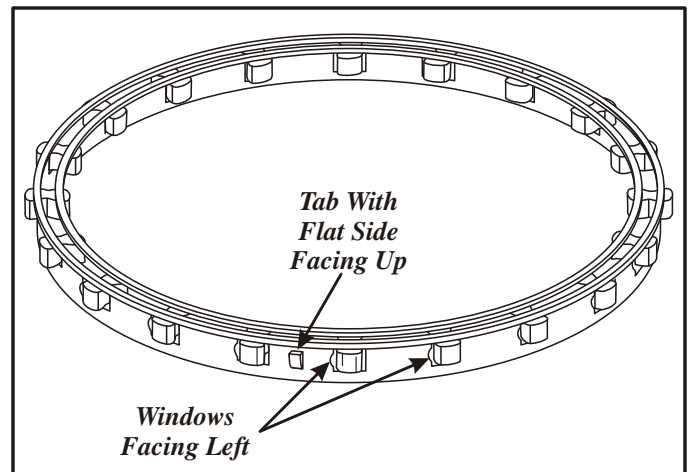

Figure 92
6. Install the low sprag into the ring gear with the flat side of the tabs facing up and the windows facing left, as shown in Figure 92.